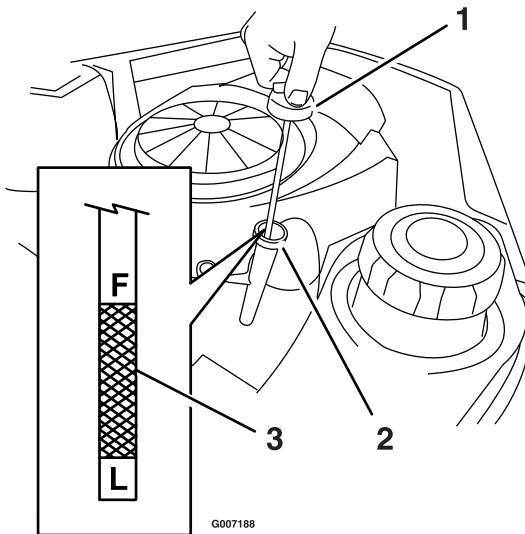
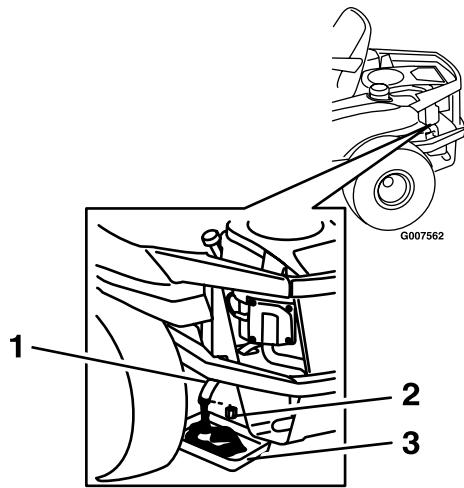

Figure 2
Figure 3
4. Pull and remove the oil fill cap/dipstick; wipe oil off. Reinsert the dipstick and push firmly into place (Figure 2).
5. Clean the area around the drain plug and on the machine frame. Place a pan underneath machine directly below the drain hole in the frame as shown in Figure 3
6. Remove the oil drain plug (Figure 3). Remove the oil fill cap/dipstick (Figure 2).
9. When the oil has drained completely, install the oil drain plug. Tighten the plug to 14 N·m (125 in-lb) torque. Wipe up any excess oil on the frame (Figure 3).
11. Install the replacement oil filter to the mounting pad. Turn the oil filter clockwise until the rubber gasket contacts the pad, then tighten the filter an additional 1/2 to 3/4 turn (Figure 3).
14. Check the oil level (Figure 2); refer to the Checking the Oil Level section.